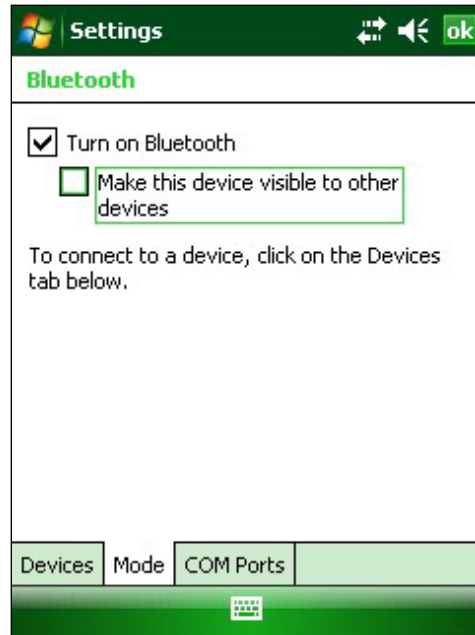

Figure 17 - Turn on Bluetooth
- 2) Once in the Bluetooth Settings Manager, click on the “Mode” tab and then make sure that the box next to “Turn on Bluetooth” is checked (Figure 17).